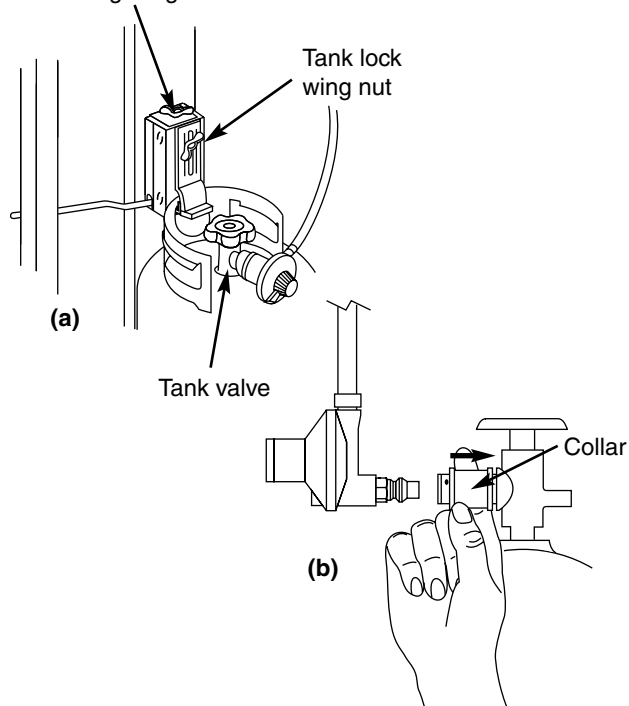

Figure 3
- 1) Close tank valve (turn clockwise). Figure 3 (a).
- 2) Slide the collar back on the quick disconnect to disengage the fitting. Figure 3 (b).